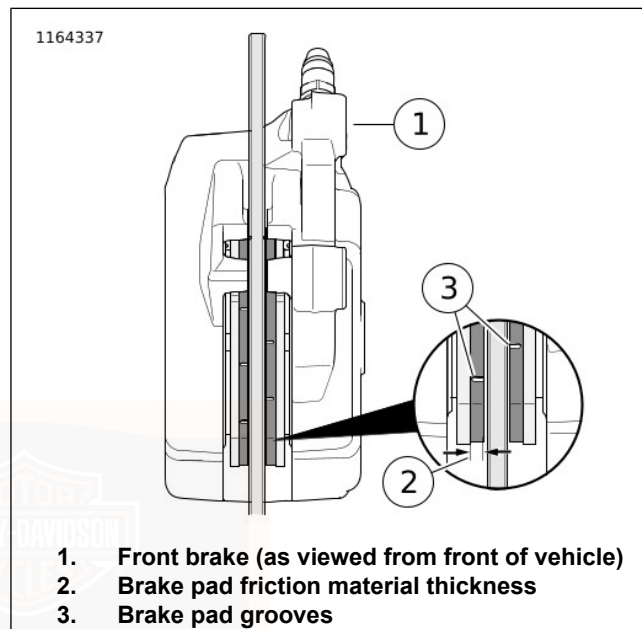
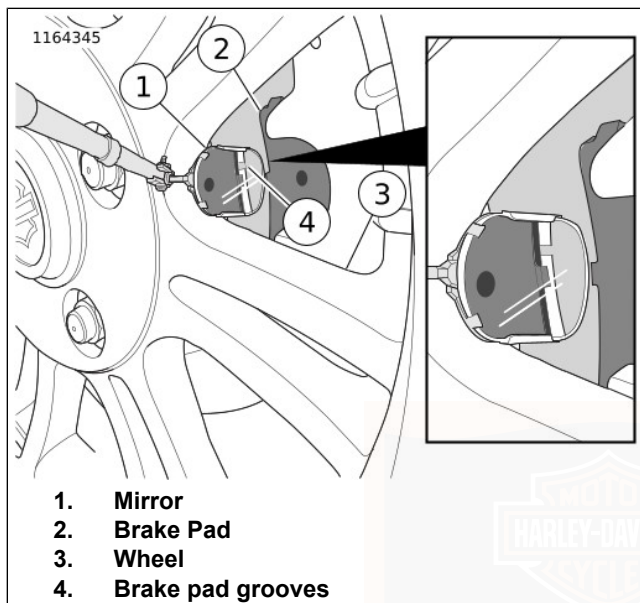

Figure 72. Front Brake Pad Friction Material
Figure 73. Rear Brake Pad Friction Material
2. See Figure 72 and Figure 73. Check brake disc/rotor as it spins. Disc/rotor should run true in brake caliper.